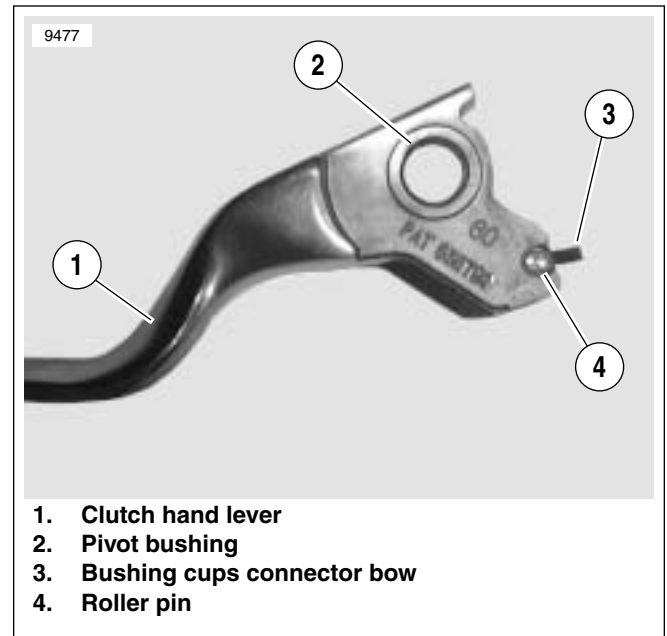

Figure 2-34. Clutch Hand Lever
1. See Figure 2-34. Slide bushing cups onto pins of roller with cup flanges against roller.